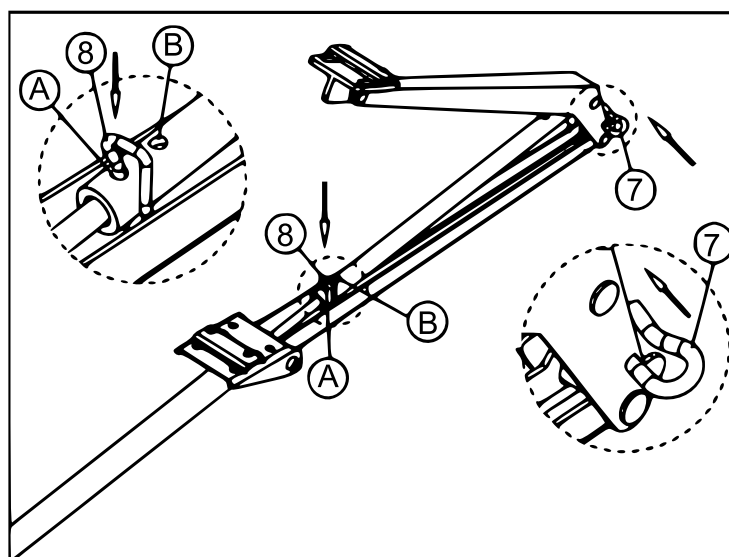

Figure 6
- **If the window can be opened between 30 cm and 40 cm:** Follow the steps described concerning a 40 cm opening window. But instead use hole "A" of the thrust rod (6). Then place the positioning pin (7) into the hole of arm B (5) (see fig. 6). (**Attention!** Do not fix the positioning pin (7) unless the splint has been secured in hole "A").